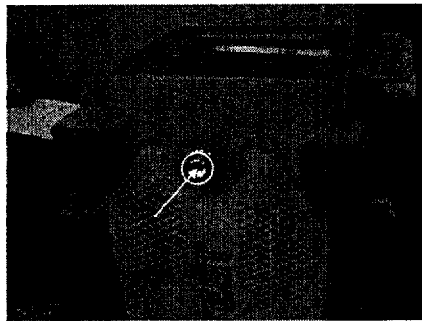
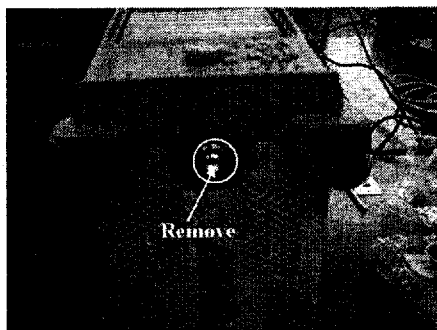

Figure 5-1 Location of Screw
Figure 5-2 Location of Screw
3. Remove 2 pcs screws on the both side of U3661, refer to Figure 5-1 and Figure 5-2.